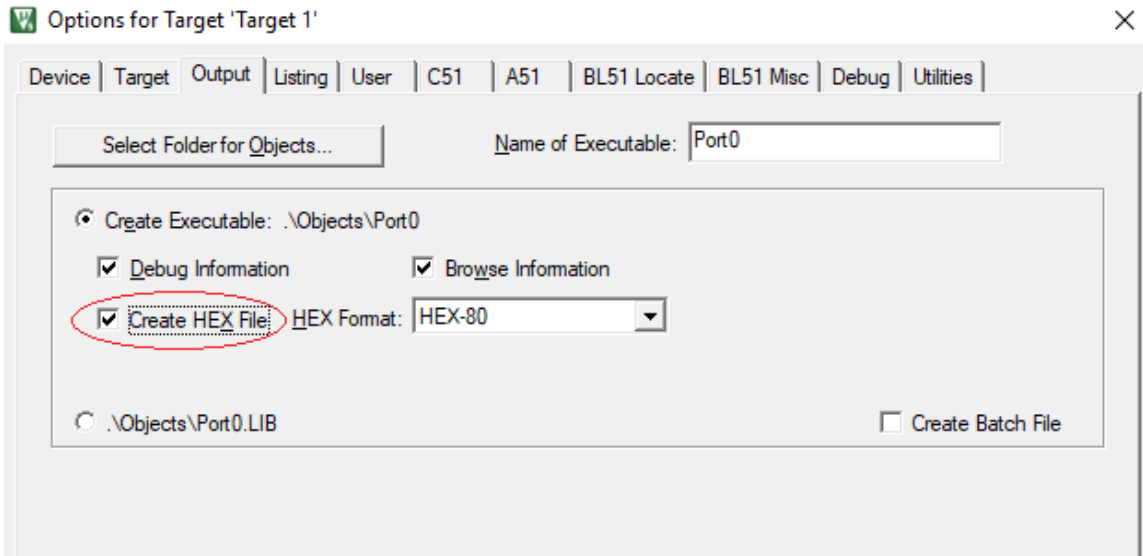

Figure 8
8. After entering the source code and adding it to your project you are ready to assemble the file. In most cases you will want the assembler to create a hex file for a result. The hex file is in an object file in a format that can be easily downloaded to the target microcontroller. To get a hex file output click on *Project*→*Options for Target 1*→*Output* and click the box that says "Create Hex File". This is shown in Figure 8.